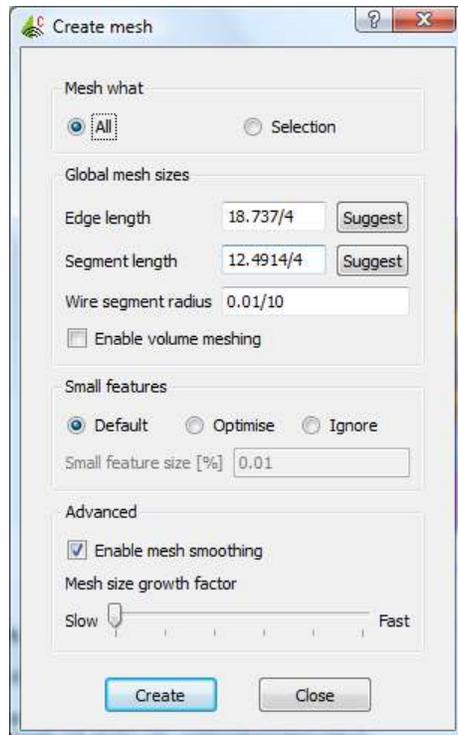

Figure 14.
17. From the “Mesh” pull down menu, choose “Create Mesh”. Fill in the fields as shown in Figure 14. “Edge Length” and “Segment Length” are chosen by clicking the “suggest” button, then dividing by 4 (/4) [If you get an Error, you need to specify the Solution frequencies, so choose an interpolated analysis with f1 as the starting frequency and f2 and the end frequency]. (Usually for smaller structures we use lambda_min variable for these two lengths, here if you use lambda_min, the mesher will take a large amount of time to create an extremely fine grid).
25. After running “Post FEKO”, you will obtain a window as shown in Figure 14.